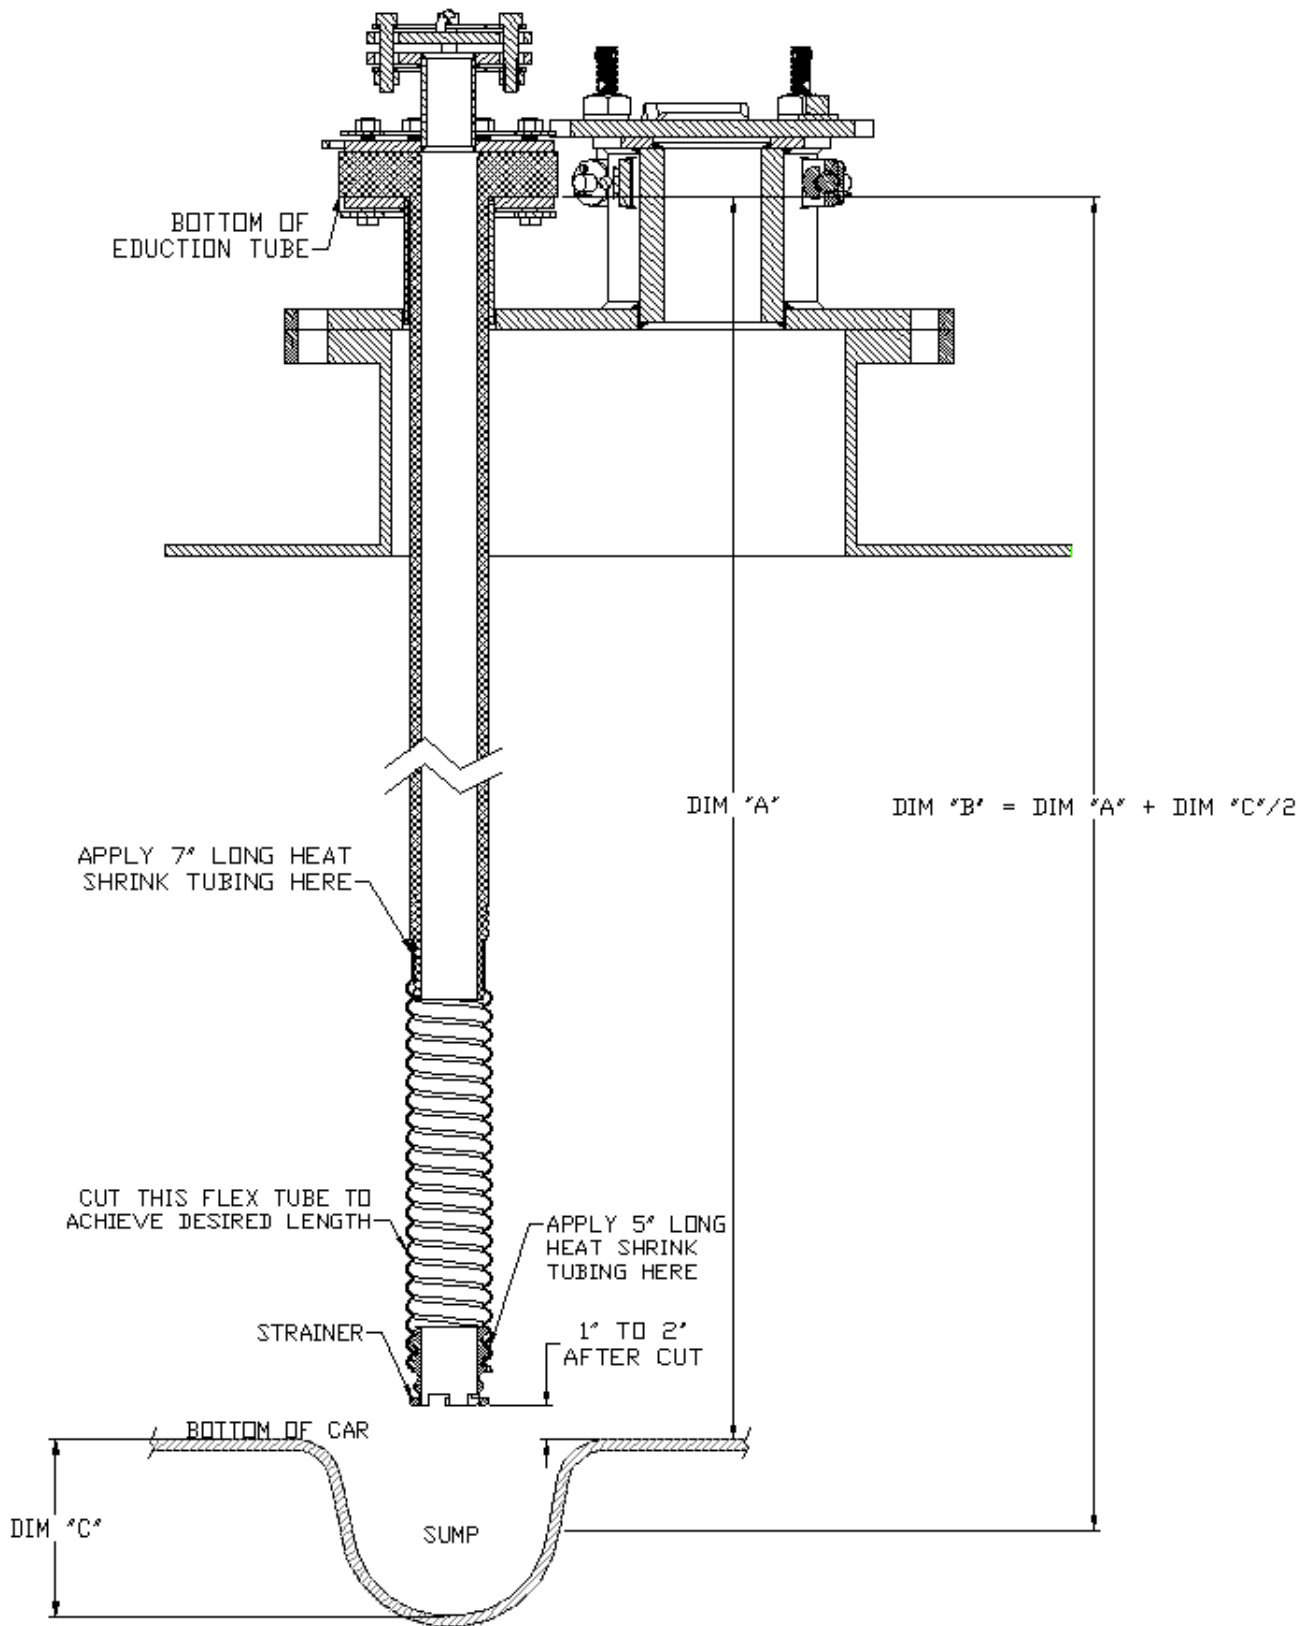

Figure 2
2. Measure the distance from the top (face) of the railcar flange to which the tube is to be installed, to the **BOTTOM OF THE RAIL CAR. DO NOT MEASURE TO THE BOTTOM OF THE SUMP.** This will be DIM "A" as shown in Figure 2.
2. Measure the distance from the top (face) of the trailer flange to which the tube is to be installed, to the **BOTTOM OF THE CAR.** This will be DIM "A" as shown in Figure 2.
3. Measure the distance from bottom of the car to the **BOTTOM OF THE SUMP.** This will be DIM "C" as shown in Figure 2.
4. If installing education tube **WITHOUT** flex-end, trim the tube down so the finished length is equal do DIM "B" as shown in Figure 2 and install into trailer.